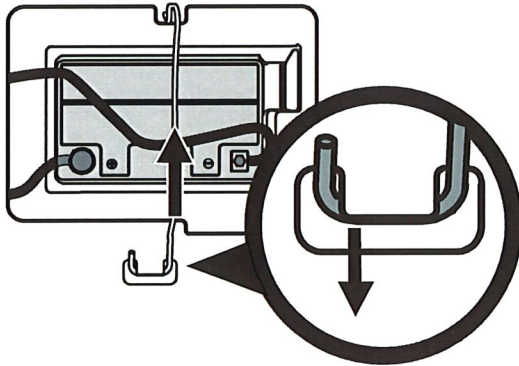

Figure 14
**NOTE:** Wiring harness should lay on top of battery hold down rod, otherwise damage to the wiring harness may result. See Figure 14 on page 13.
3. Remove the battery hold down rod by pushing the hooked end out of the tab on the fender to the right side of the battery. Then flip the battery hold down rod up to free the battery. See Figure 14.